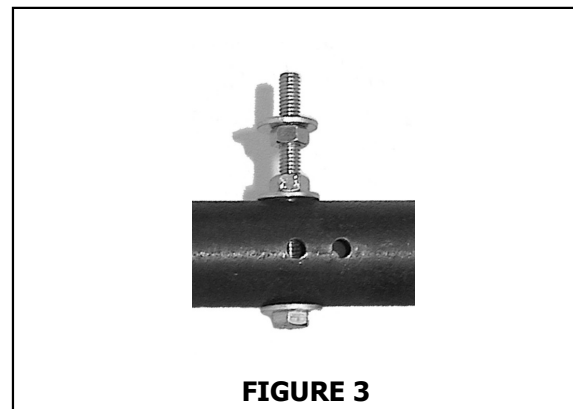

FIGURE 3
5. Secure the 5/16" X 4" bolt onto the ball lift tube using the 3/8" holes drilled. See figure 3.